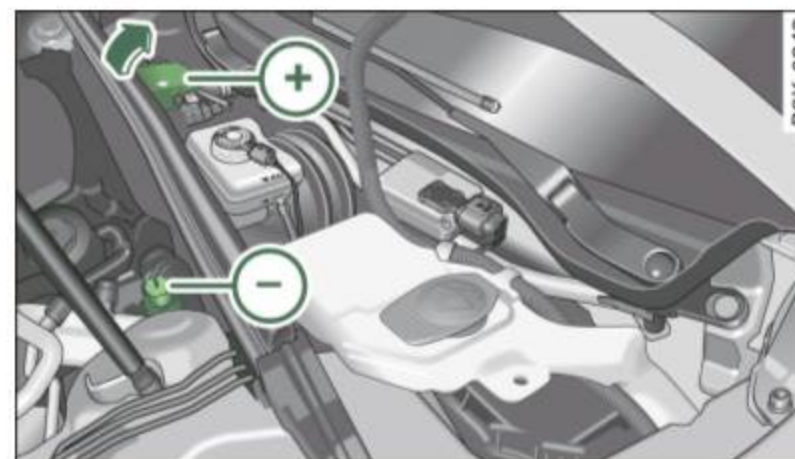

Fig. 232 Engine compartment: Connectors for jumper cables and charger
- Open the red cover on the positive pole ⇒ fig. 232.